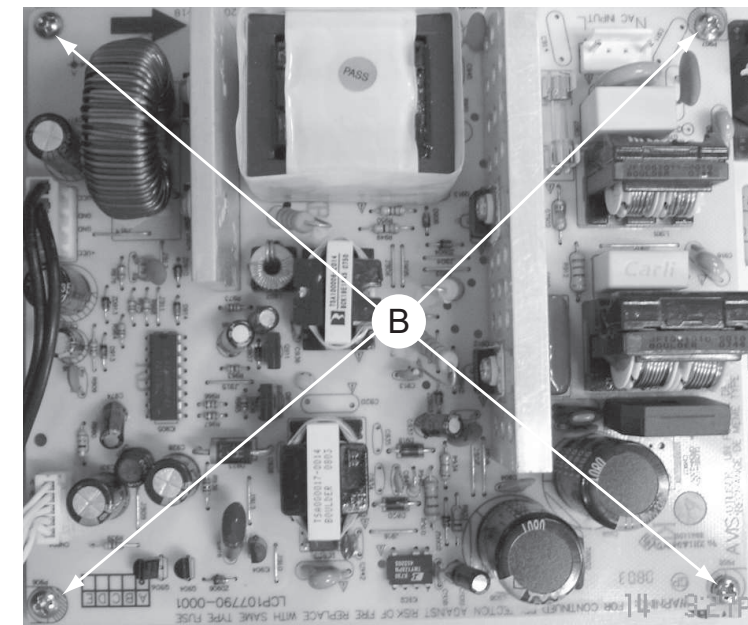

Figure 2
1) Loosen 4 screws "B" on the top of power board as shown in figure 2.